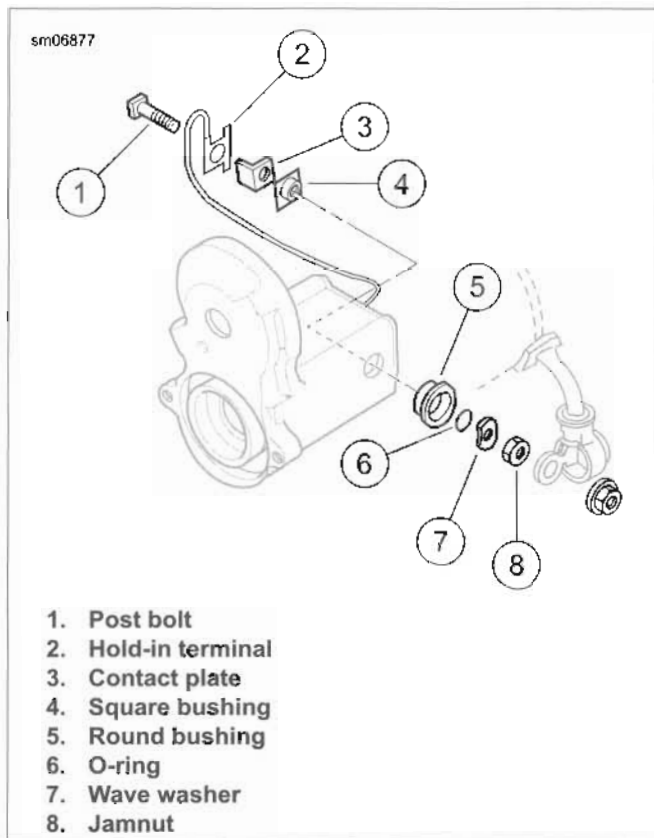

Figure 7-28. Short Post Contact (starter)
- b. See Figure 7-28. Remove jamnut (8), wave washer (7), O-ring (6) and round bushing (5).
- c. Remove the post bolt (1).
- d. Remove the hold-in terminal (2) from the post bolt.
- e. Remove the contact plate (3) and the square bushing (4).